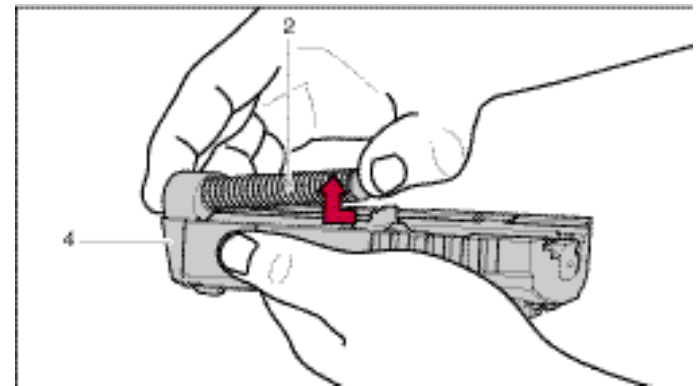

Fig. 11
9. Press the recoil spring unit 2 forward, carefully lift it and remove it from the slide 4 (Fig. 11).